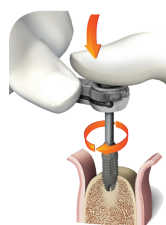

Fig 5.0
- 1a. Place ratchet (set at 35 NF) with ratchet mount in implant and rotate clockwise (Fig 5.0)
- 1b. Remove carrier by pulling up and out (Fig 5.0)
1a. Place ratchet (set at 45 NF) with ratchet mount in implant and rotate clockwise (Fig 5.0)
e. You can rotate the last few turns by using the ratchet and the ratchet mount at 35NF. It is recommended to rotate the implant until it is 0.5mm below crestal height (Fig 5.0).